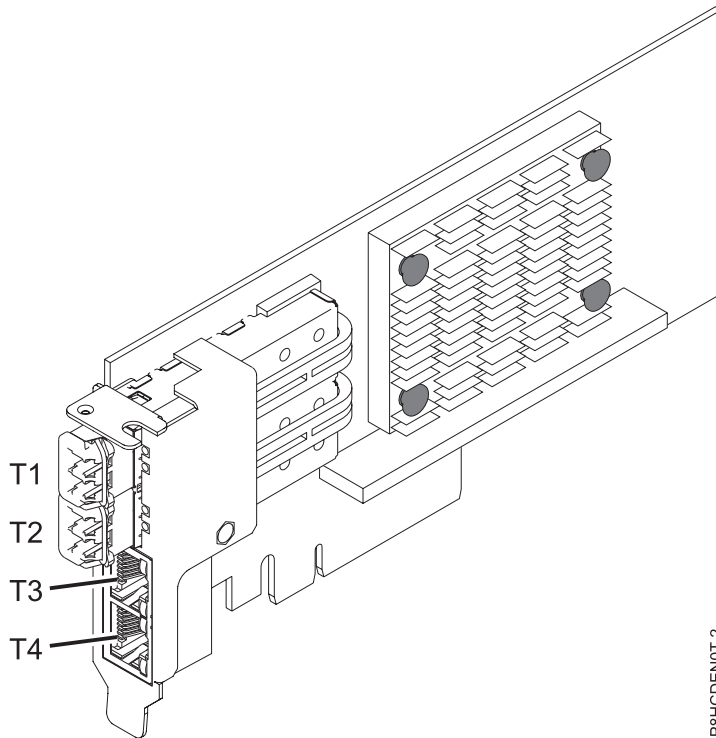

Figure 62. FC EN0T adapter
The four-port adapter provides two 10 Gb small form-factor pluggable (SFP+) optical SR transceiver ports and two 1 Gb RJ45 Ethernet ports. The two 10 Gb SR ports have little connector (LC) duplex-type connectors. The optical transceiver uses shortwave laser optics and is attached with MMF-850nm fiber cabling with LC connectors. See “Cables” on page 86 for more information about the optical cables. Each 10 Gb port provides Ethernet connectivity with a nominal data rate of 10 Gbps (gigabits per second). Figure 62 on page 85 shows the FC EN0T adapter.